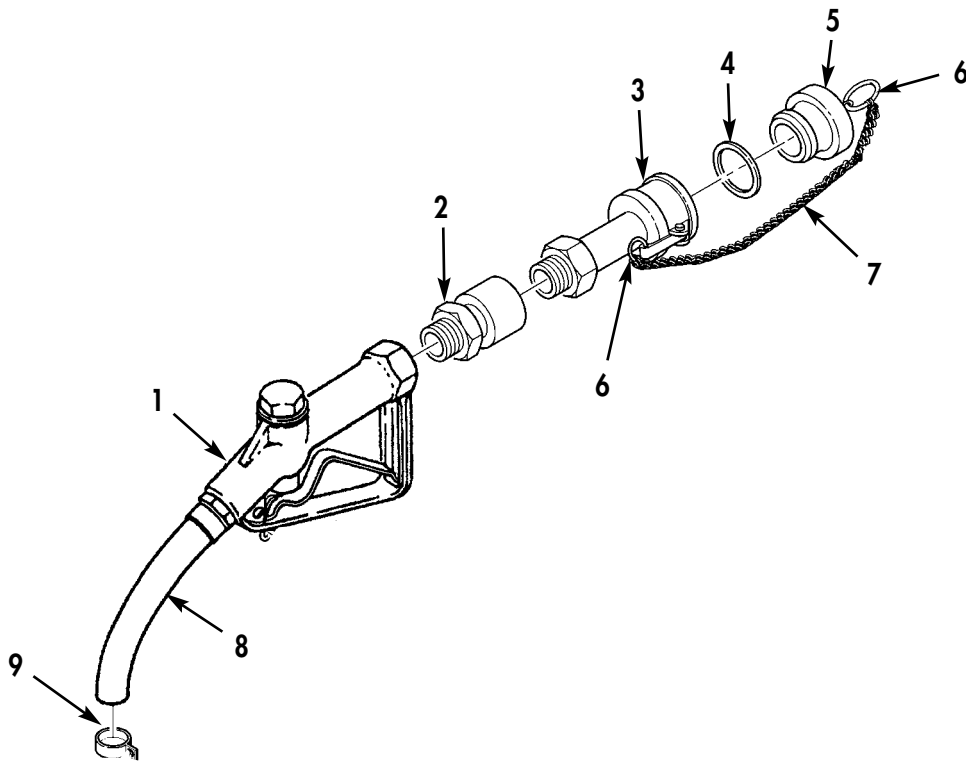

Figure 3. Nozzle Assembly.
1. Apply sealing compound to male pipe threads on swivel joint (Figure 3, Item 2) and coupling half (Figure 3, Item 3), and install swivel joint (Figure 3, Item 2) and coupling half (Figure 3, Item 3) on nozzle assembly (Figure 3, Item 1). Remove any excess sealing compound with cloth.
2. Install chain (Figure 3, Item 7) on coupling half (Figure 3, Item 3) and plug (Figure 3, Item 5) with two retaining rings (Figure 3, Item 6), and install plug (Figure 3, Item 5) and new gasket (Figure 3, Item 4) on coupling half (3).
3. Install dust cap (Figure 3, Item 9) on nozzle assembly (Figure 3, Item 1), and secure dust cap (Figure 3, Item 9) on nozzle spout (Figure 3, Item 8).